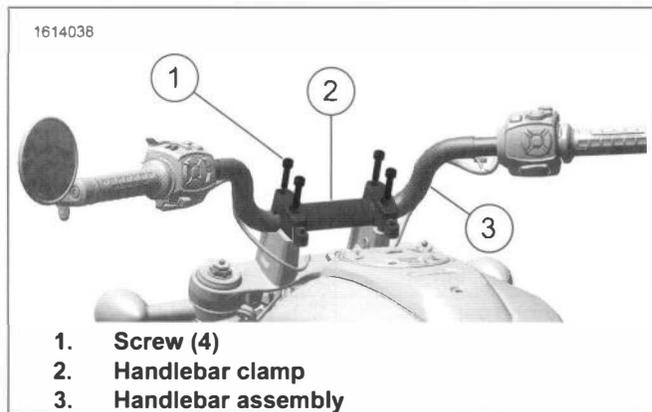

Figure 3-92. Handlebar Assembly
1. See Figure 3-92. Remove screws (1) and handlebar clamp (2).
2. Remove handlebar assembly (3).
1. See Figure 3-92. Install handlebar assembly (3).
2. Install handlebar clamp (2) and screws (1). Tighten.